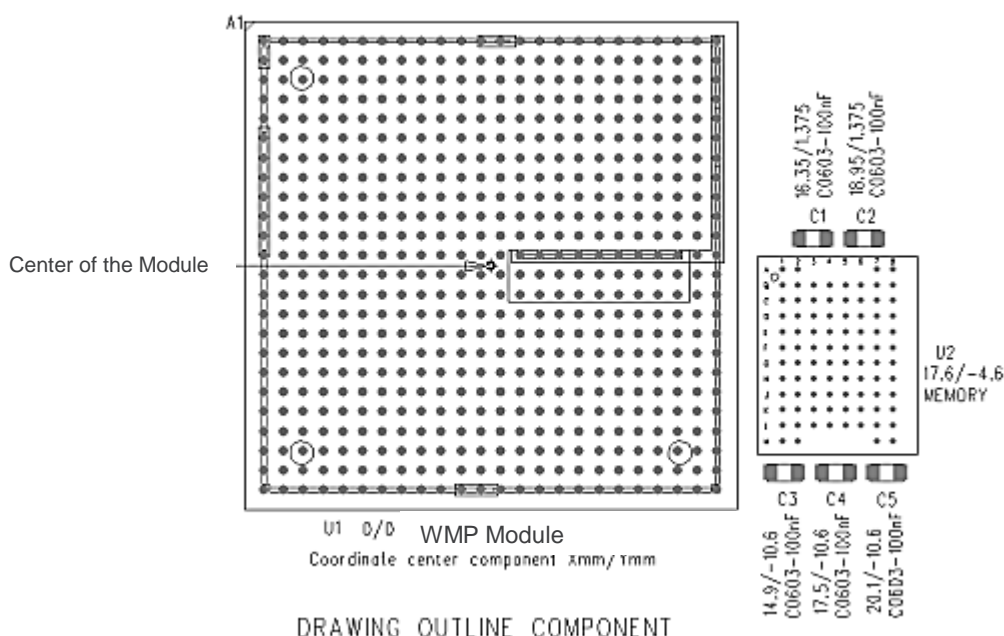

Figure 73. Combo Memory Location
- Decoupling capacitors have to be used and to be placed close to the memory power supply pins. (Refer to Figure 73 Combo Memory Location below)
The memory must be placed close to the module (refer to Figure 73 Combo Memory Location below).